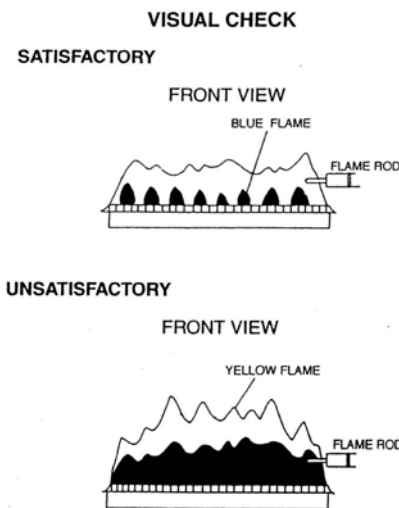

Figure 42. Burner Flame Appearance.
2. Visually inspect the burner flames. The flame must burn with a clear blue, stable flame (possibly with orange tips). Refer to Figure 42 for satisfactory flame appearance. If the burner flame appearance is not satisfactory or debris is visible on the burners, remove and clean with a vacuum cleaner.